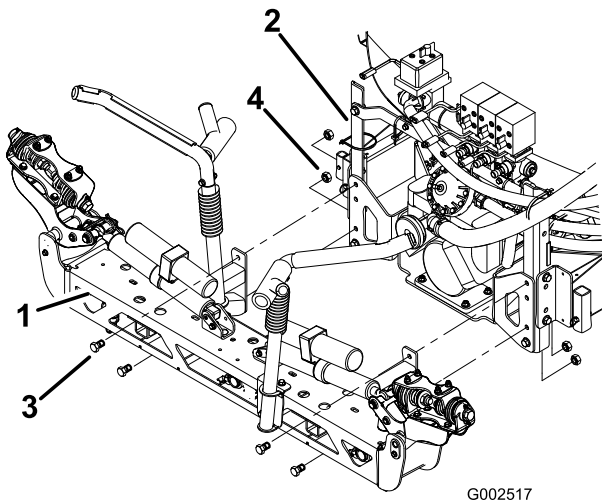

Figure 28
- Mount the center boom assembly to the spray system assembly at the boom frame mounts as shown in Figure 28 with 4 bolts (1/2 x 1-1/4 inches) and four lock nuts (1/2 inch).